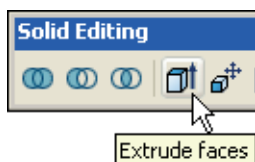

Fig. 19.2 The **Extrude faces** tool icon
6. Click the **Extrude faces** tool icon in the **Solids Editing** toolbar (Fig. 19.2). The command line shows: